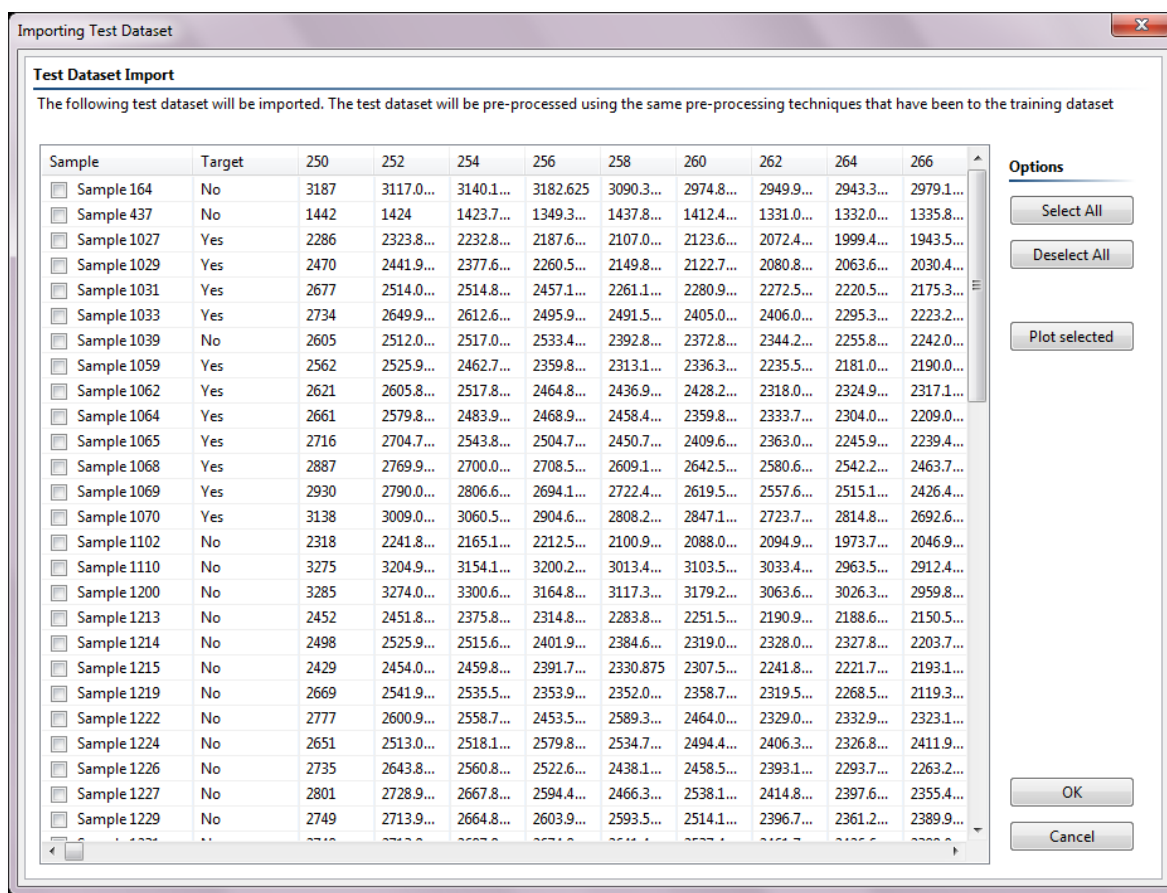

Figure 65: Import Test File evaluation method
2. **Import Test File:** the entire dataset is used to build a model with the selected method. The resulting model is then tested by using the model to classify each sample of a separate dataset, selected by the user. For this type of evaluation, select the *Import Test File* option and click on *Select File* button to import the dataset. Note that only files in the *Sample Per Row* format are allowed for this import step. See Section 5.2.2.2 for details on the format of this file. Figure 65 shows the window that is opened after a file been selected for evaluation. As this window indicates, the test dataset is pre-processed using the same pre-processing techniques that have already been applied to the training dataset. The training dataset is the dataset prepared in Section 5.2.1. As can be seen in Figure 65, the functionality for selecting and plotting spectra is available here as it is when preparing the training dataset; refer back to Section 5.4 for details.